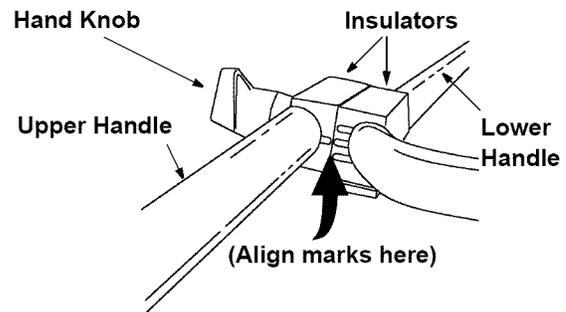

Figure 3
- The upper handle may be adjusted to three different height positions. To adjust the handle to the desired position, align one of the three marks on the top of the lower handle insulators with the mark on the upper handle insulators. See Figure 3.
- The upper handle may be adjusted to three different height positions. To adjust the handle to the desired position, align one of the three marks on the top of the lower handle insulators with the mark on the upper handle insulators. Refer to Figure 3.